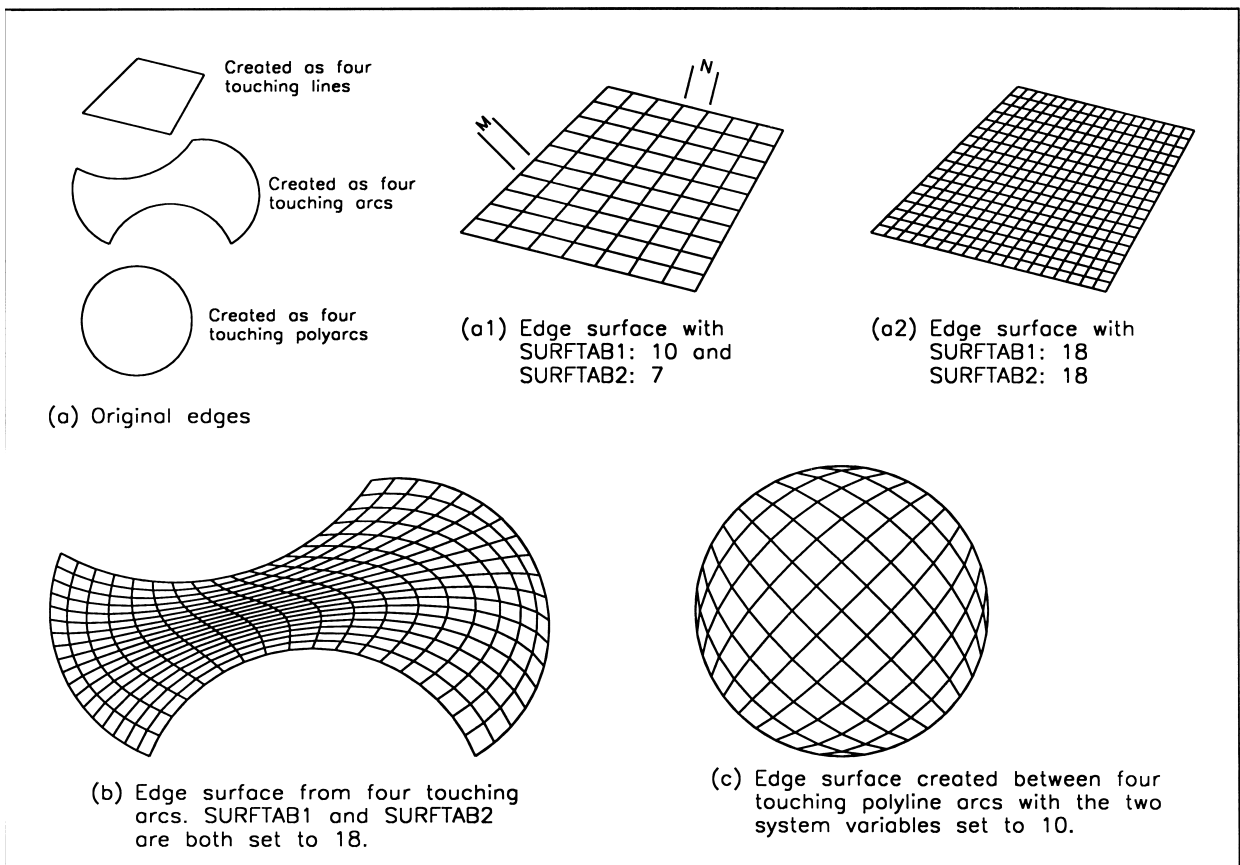

Figure 19.1 Edge surface example 1 – 2D application.
- 2 Refer to Fig. 19.1 and display toolbars as required. Erase all objects